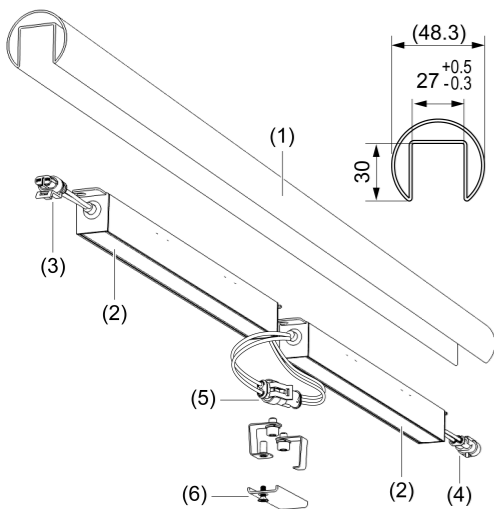

Figure 1
- i** Pay attention to correct groove dimensions (Figure 1)